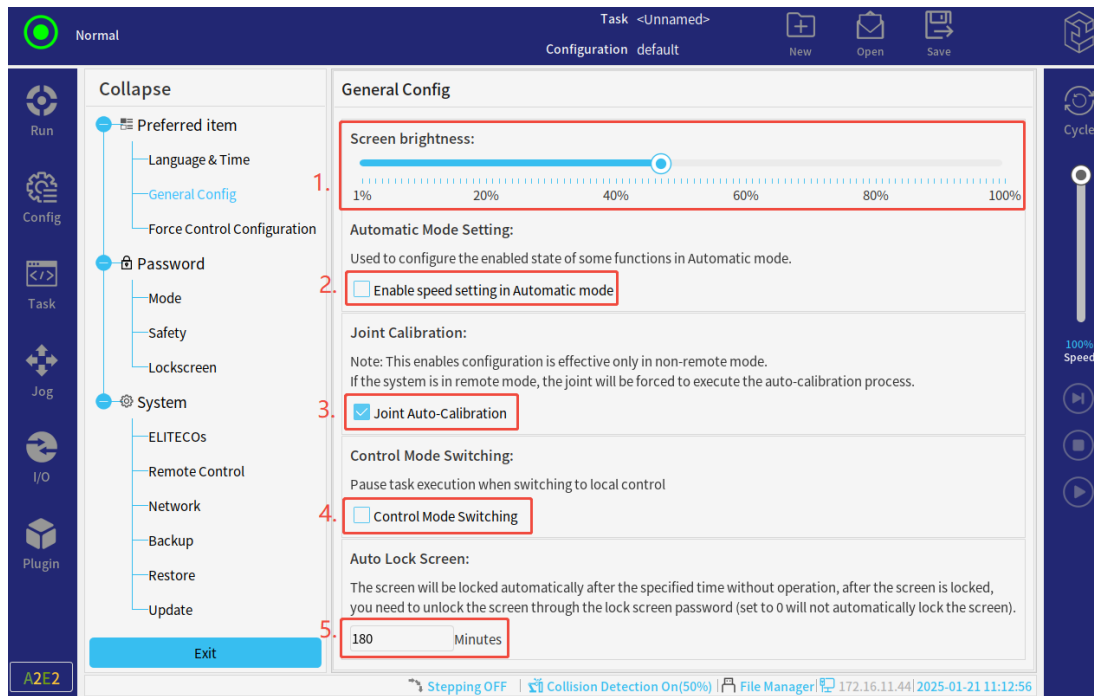

Figure 3-13 : General Configuration
Users can perform the following five settings in this interface(see **Figure 3-13**).
1. **Adjust Screen Brightness:** Slide the scale axis in **Figure 3-13** to adjust the screen brightness.
2. **Automatic Mode Configuration:** tap the button in **Figure 3-13** so that the running speed of the program can be adjusted when the system is in automatic mode.
3. **Joint Calibration:** tap the button in **Figure 3-13** to perform joint calibration automatically.
4. **Control Mode Switching:** tap the button in **Figure 3-13** so that the system will pause running automatically when switching between modes.